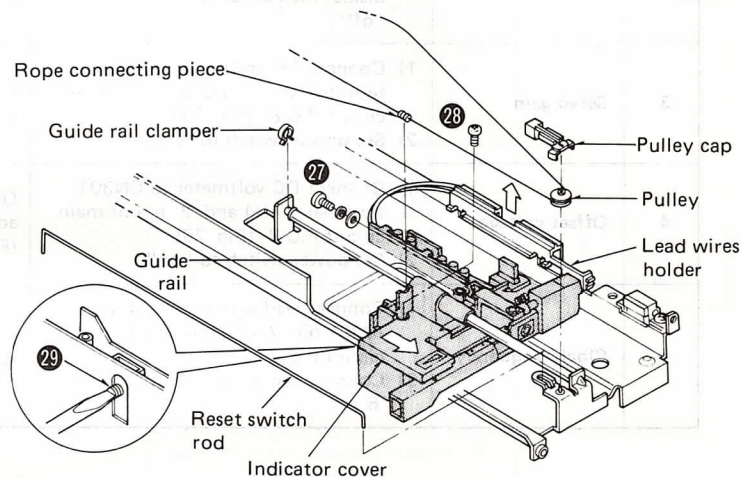

Fig. 16
6. Remove the lead wires holder. (Fig. 16)
12. Remove the tonearm setscrew (Fig. 16: 27), then the tonearm can be removed.
2. Remove the indicator cover setscrew (Fig. 16: 28) and the indicator cover in the direction of the arrow.
3. Remove the offset angle detection circuit board setscrew (Fig. 16: 29), then the offset angle detection circuit board can be removed.